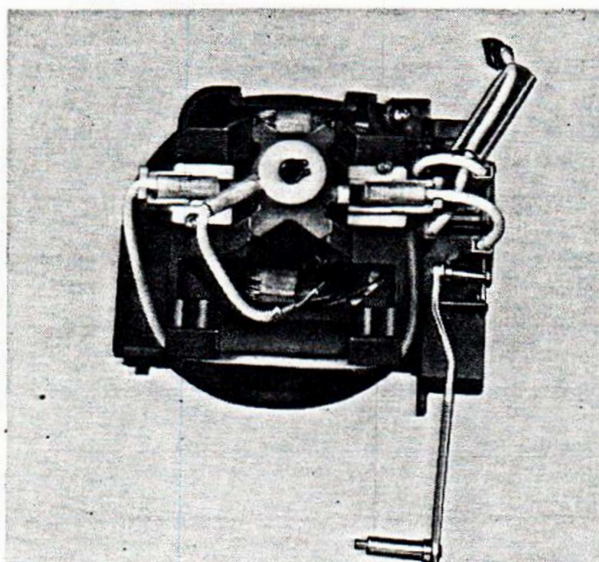

Figure 30. Motor Sprocket Removal
- A. Using TRUARC snap ring tool No. 02, remove motor drive clip. See Figure 30.